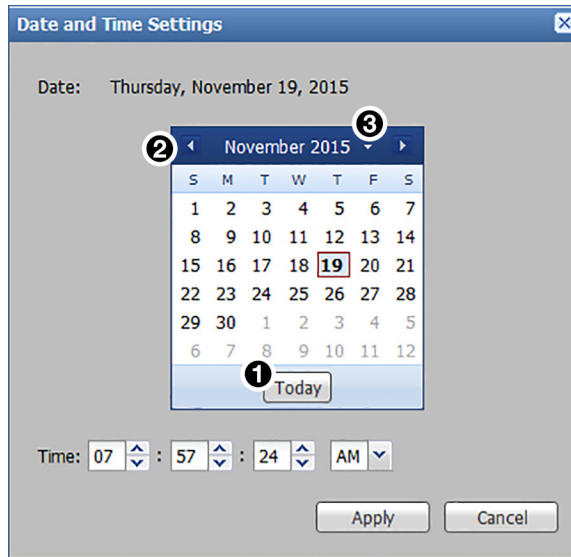

Figure 47. Date and Time Settings Dialog Box
- Click the **Today** button to set the date to the current date on the PC (see figure 47, ①).
- Click the left and right arrow buttons in the calendar heading (②).
- Click the drop-down menu next to the calendar month and year (③), and select the desired month and year. Click the **OK** button to accept the selected settings or the **Cancel** button to cancel pending selections.